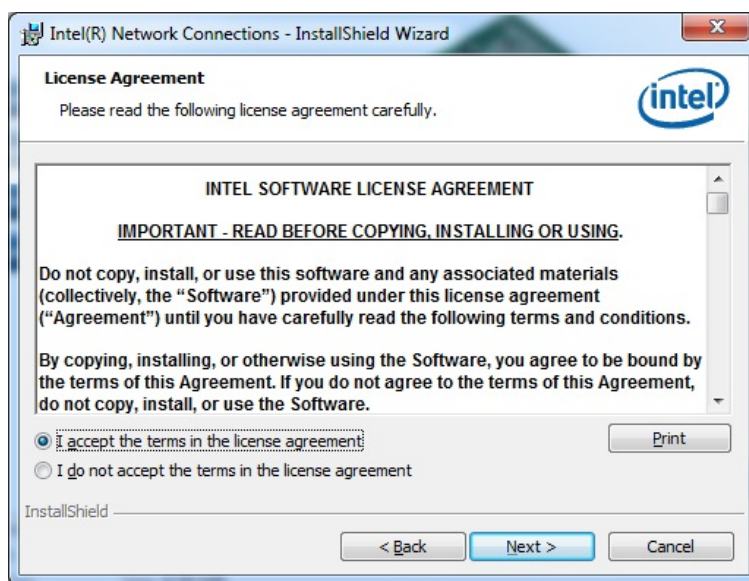

Figure 6-15: LAN Driver License Agreement
Step 9: The **License Agreement** in Figure 6-15 appears.